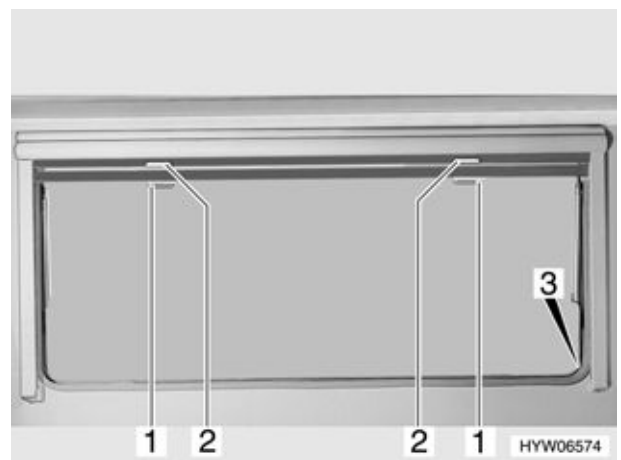

Fig. 46 Hinged window (variant 1)
- Pull blind at the handle (Fig. 46,2) downwards. If the blind is to be completely closed, it is suspended into the locking devices situated on both sides of the window frame (Fig. 46,3).
- If the blind is completely closed: press handle (Fig. 46,2) downwards and at the same time tilt it slightly forwards. The blind can be taken out of the locking devices situated on both sides of the window frame.
- Pull insect screen at the handle down (Fig. 46,1) and hang it into the locking devices situated on both sides of the window frame (Fig. 46,3).
- Press handle (Fig. 46,1) downwards and at the same time tilt it slightly forwards. The insect screen can be taken out of the locking devices situated on both sides of the window frame.